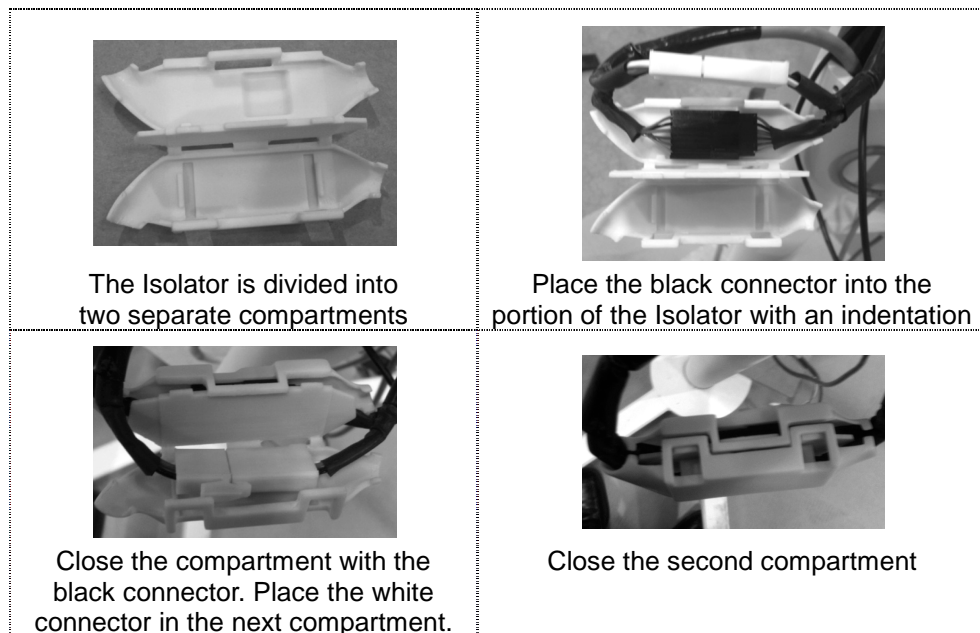

Figure 27: Installing the Isolator in the Vertical Column
2. Install the Isolator following the steps shown on Figure 27. The purpose of the Isolator is to keep the connectors from pulling apart over time and provide additional insulation between the high voltage cables and the USB cable.